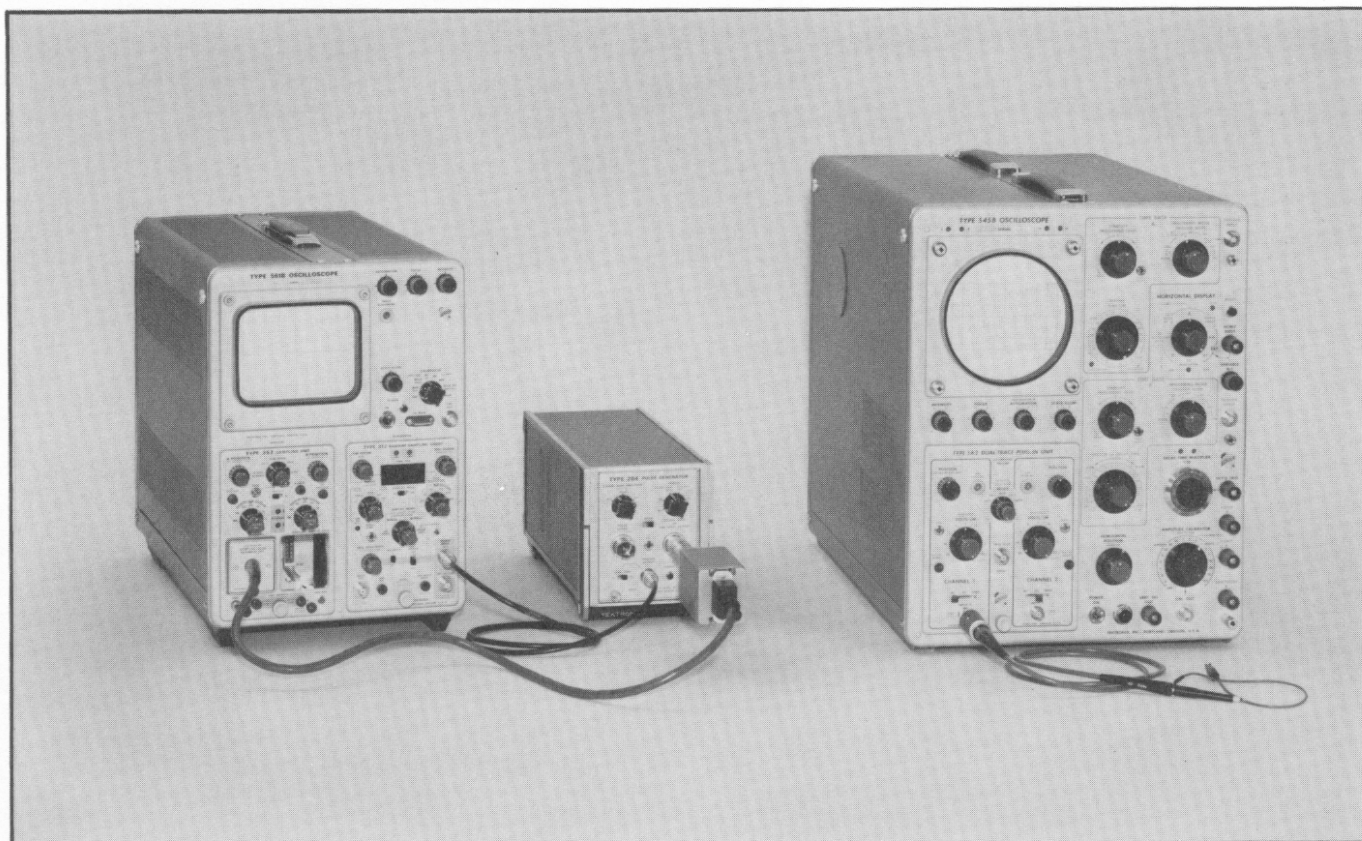

Fig. 5-2. Initial equipment setup.
f. Set the controls as listed following Fig. 5-2.
a. Connect the Type 284 Square Wave Output signal to the Type S-4 as shown in Fig. 5-2. Use a 2 \times GR attenuator at the Type 284 Output connector and a GR to 3 mm adapter to the Type S-4 Input connector.